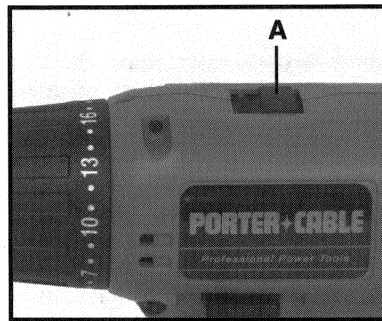

Fig. 4
The Model 862 Cordless Driver/Drill has a two-speed gear shift which provides spindle speed ranges of approximately: 0 to 350 RPM (LOW) and 0 to 1250 RPM (HIGH). To change speed ranges: release trigger switch to stop motor and then slide speed selector (A) Fig. 4, toward rear for HIGH speed or toward front for LOW speed.